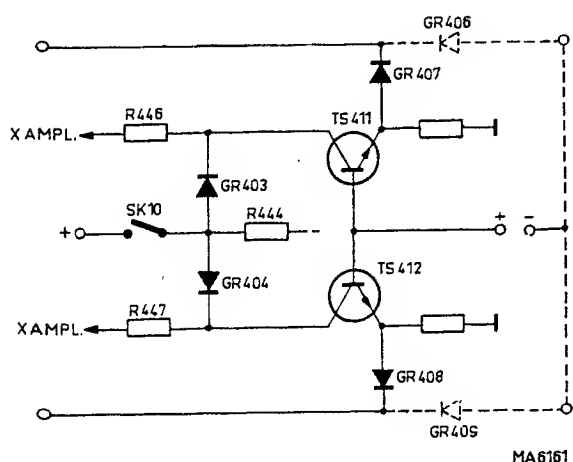

Fig. 22.
If the anode voltage exceeds the input voltage of the horizontal amplifier, the signal is short-circuited. If there is no voltage applied via point 25 of switch SK10, resistor R444 causes the anode voltages of diodes GR403 & 404 to be negative and the signal current is fed to the horizontal channel (Fig. 22).
4. Bases TS411 & 412 positive (Fig. 22):